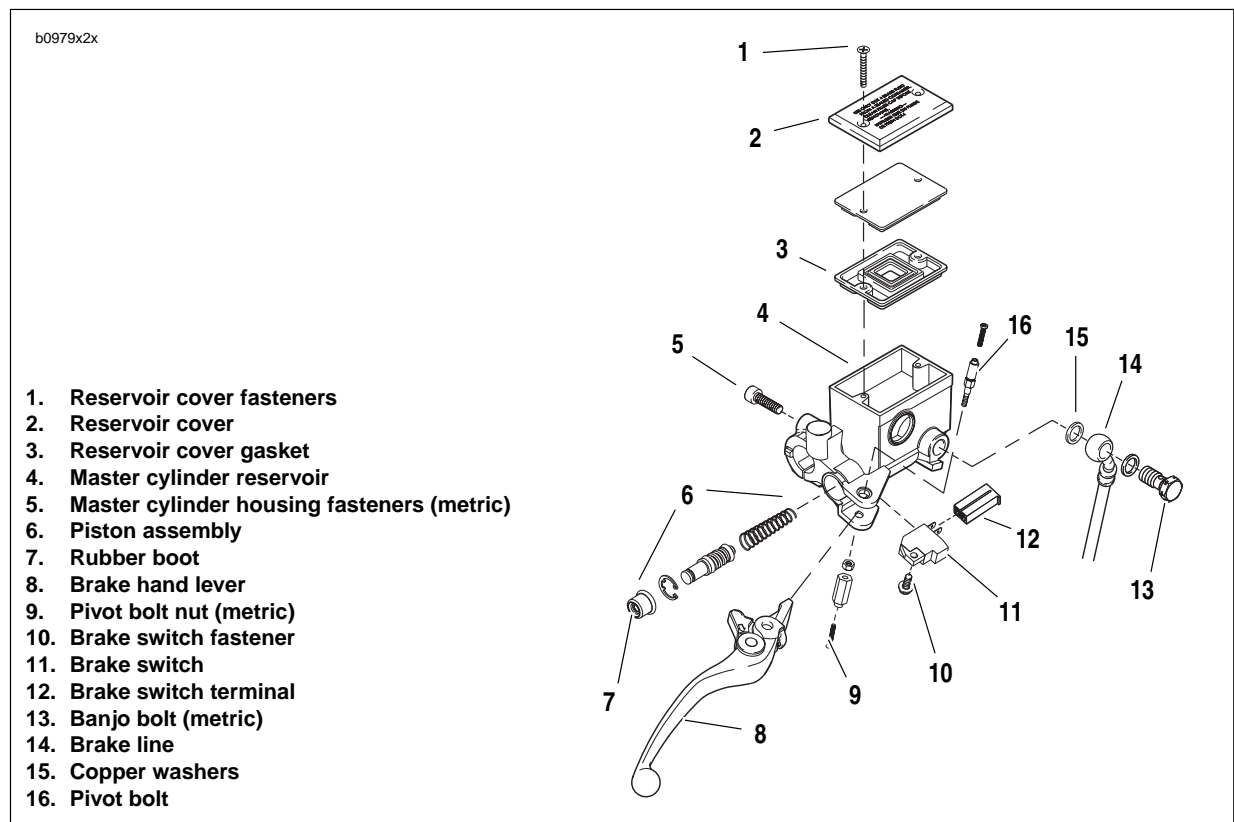
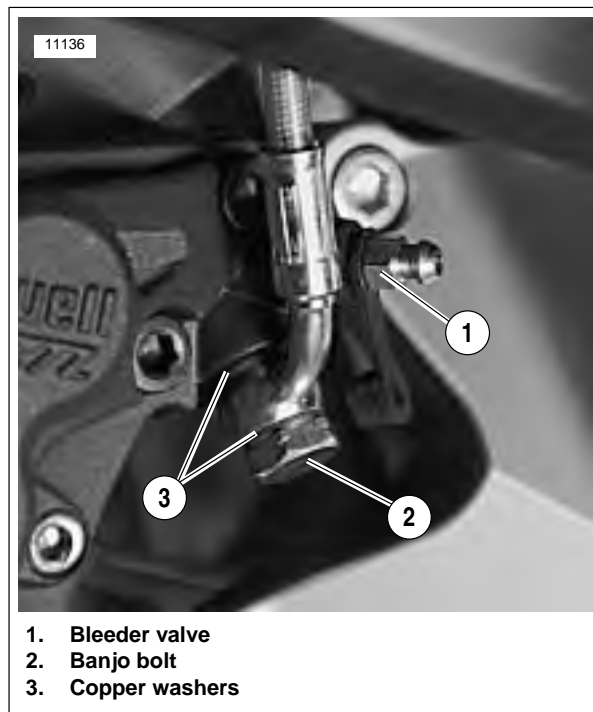

Figure 2-38. Front Brake Hand Lever Assembly
Figure 2-44. Bleeder Valve and Banjo Bolt (Caliper)
3. See Figure 2-38. Remove the banjo bolt (13) (metric) and two copper washers (15) to disconnect brake line (14) from master cylinder (4). Discard copper washers.
4. Unplug terminal (12) to detach brake lamp switch (11).
1. See Figure 2-38. Remove pivot bolt nut (9) (metric) and pivot bolt (16) from hand lever pivot.
2. Detach front brake hand lever assembly (8) from hand lever pivot.
3. Detach front brake lamp switch (11) by removing the switch fastener (10).
5. See Figure 2-38. Remove piston assembly (6) from front master cylinder reservoir (4) and discard.
4. See Figure 2-38. Insert piston assembly (6), spring first, into master cylinder reservoir (4).
1. See Figure 2-38. Lubricate pivot bolt (16) with LOCTITE ANTI-SEIZE.
2. Align hole in hand lever (8) with hole in hand lever pivot and install pivot bolt (16) through top of hand lever pivot and tighten nut to 39-48 **in-lbs** (4.4-5.4 Nm).
1. See Figure 2-38. Install front brake lamp switch (11).
- a. Install brake lamp switch (11) with switch fastener (10) and tighten to 7-10 **in-lbs** (0.8-1.0 Nm).
- b. Connect brake switch terminal (12) to brake lamp switch (11).
3. See Figure 2-38. Connect brake line to master cylinder using two **new** copper washers (15) and banjo bolt (13) (metric) and tighten to 16-20 ft-lbs (22-27 Nm).
- See Figure 2-38. Attach master cylinder cover (2) and cover gasket (3). Tighten two cover fasteners (1) to 9-13 in-lbs (1.0-1.5 Nm).
- a. See Figure 2-44. Remove front caliper bleeder valve cap and install a length of plastic tubing over valve (1). Place free end in a suitable container.
6. See Figure 2-44. Remove caliper banjo bolt (metric) (2), two copper washers (3) to disconnect brake line from caliper. Discard copper washers.
1. See Figure 2-38. Connect brake line (14) to master cylinder (4) using two **new** copper washers (15) and a banjo bolt (13) (metric). Loosely install bolt into master cylinder.
- a. See Figure 2-44. Install **new** copper washer (3), brake line, **new** copper washer (3) onto banjo bolt (2).
5. Install and tighten p-clamp with fastener (1) on lower triple clamp to 36-60 **in-lbs** (4-7 Nm).
6. See Figure 2-38. Tighten master cylinder banjo bolt (13) (metric) to 16-20 ft-lbs (22-27 Nm).
7. See Figure 2-44. Tighten brake caliper banjo bolt (metric) to 16-20 ft-lbs (22-27 Nm).